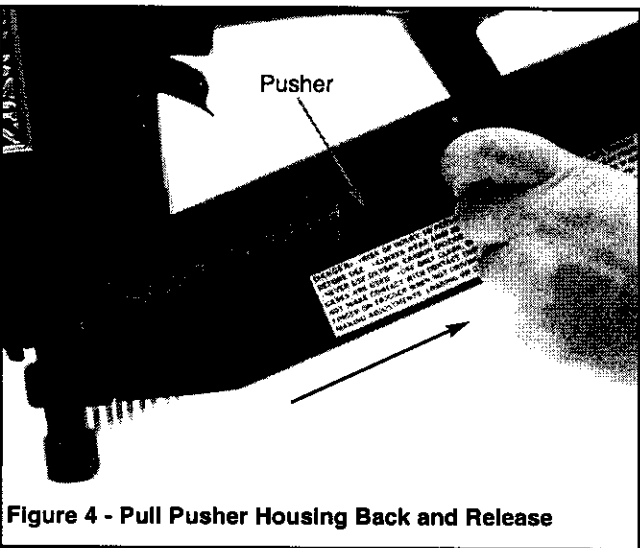

Figure 4 - Pull Pusher Housing Back and Release
- Grasp pusher housing, depress latch and pull the pusher housing back until the pusher is completely behind the nail strip. Then release the latch and housing. The housing will travel forward and the pusher will apply pressure to the nail strip, pushing it into the driving mechanism (see Figure 4).